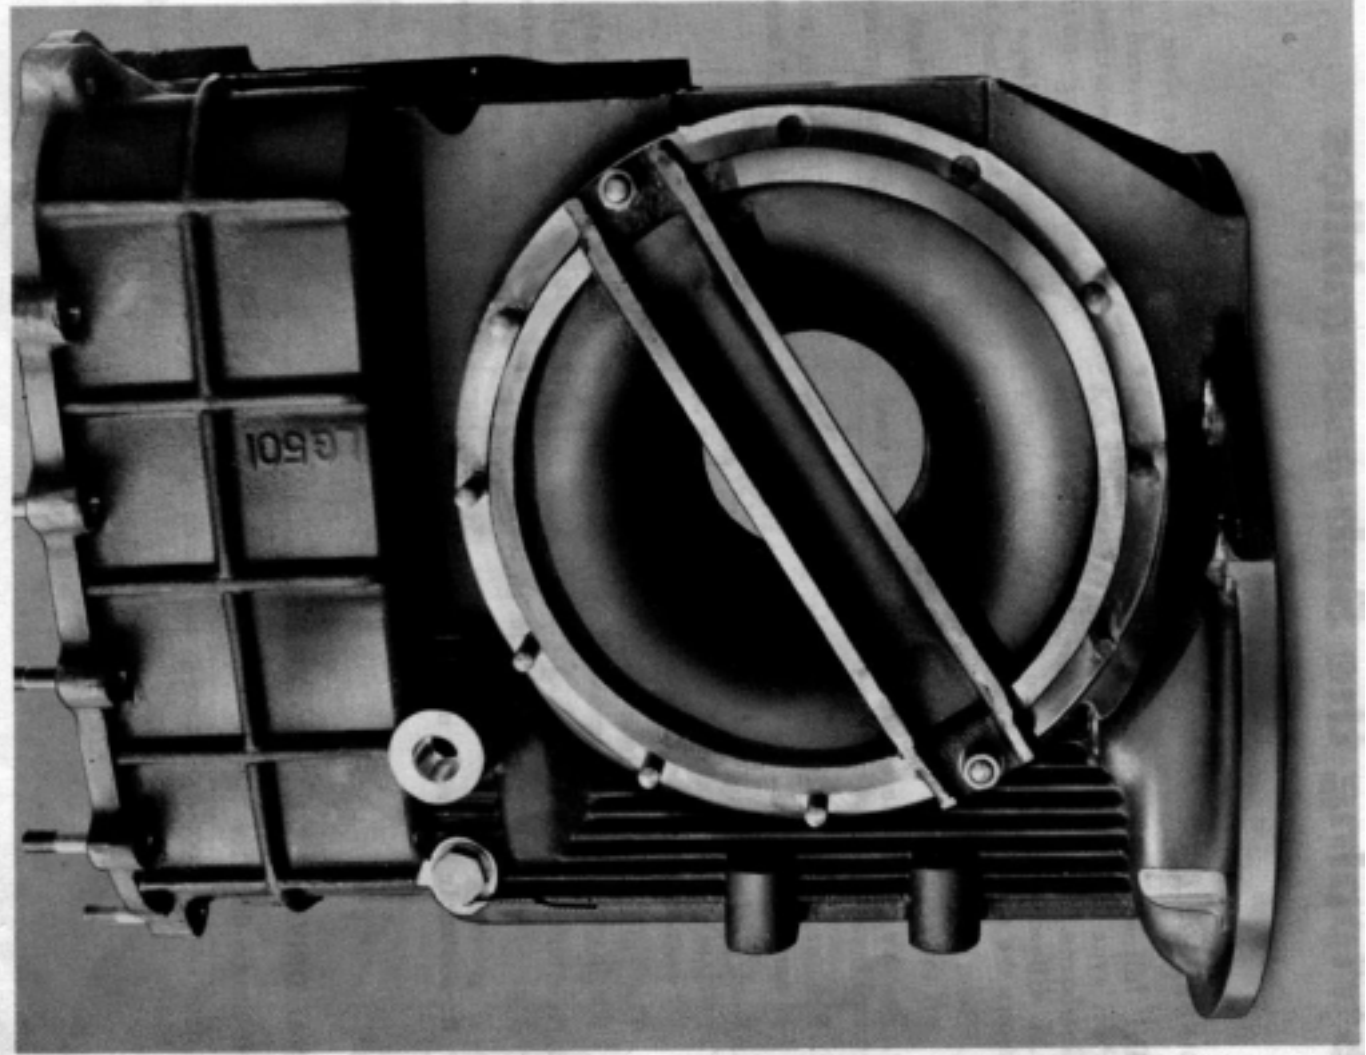

Fig. 3. The **Hewland** setting gauge in position
1. Assemble setting gauge to main case. (Fig. 3)